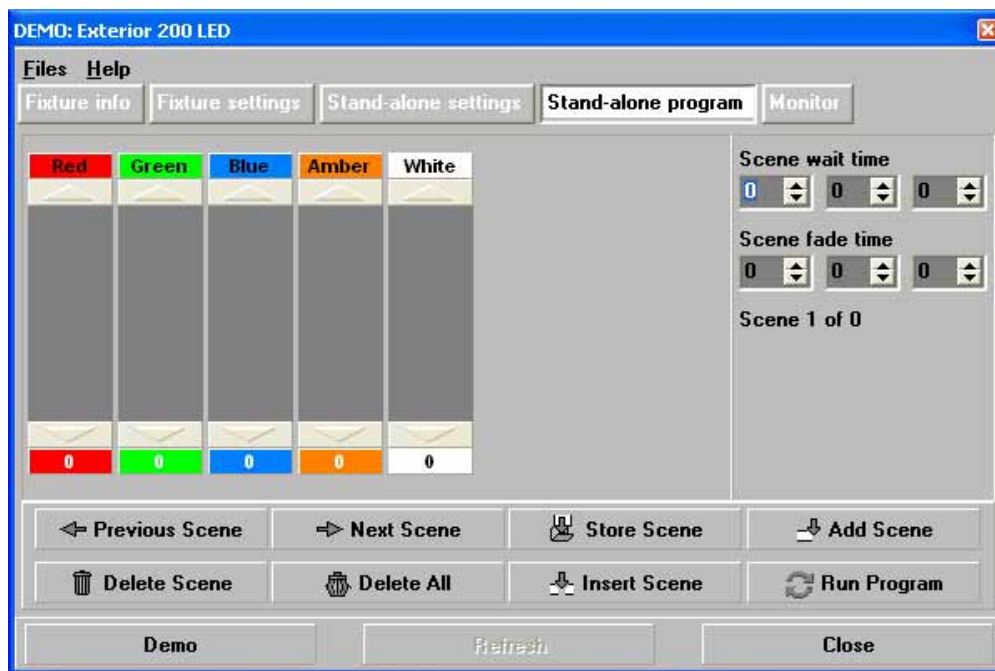

Figure 15: Stand-alone programming window
1. click on the **Stand-alone program** button (see Figure 15).